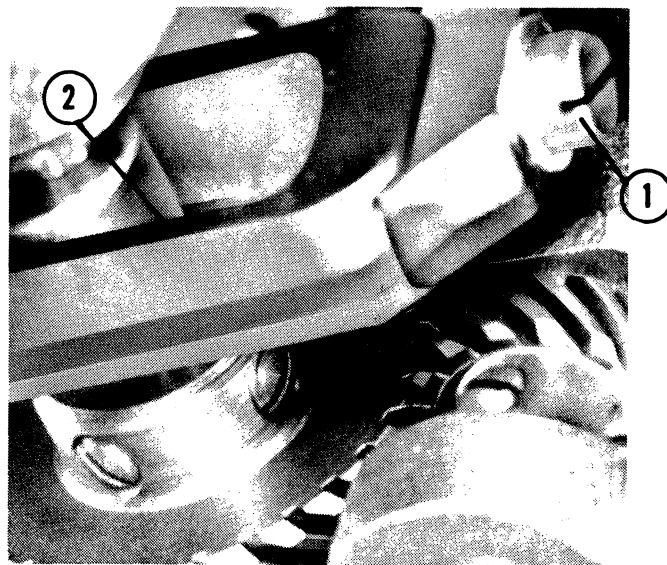

Fig. 13
- a. On machines with vertical axis rotating loop taker (hook), loosen the feed lifting eccentric fork screw (1, Fig. 13) and raise or lower the feed bar fork (2) as needed so that the feed dog in its highest position rises the height of a tooth above the throat plate. Be sure to again tighten feed fork screw.